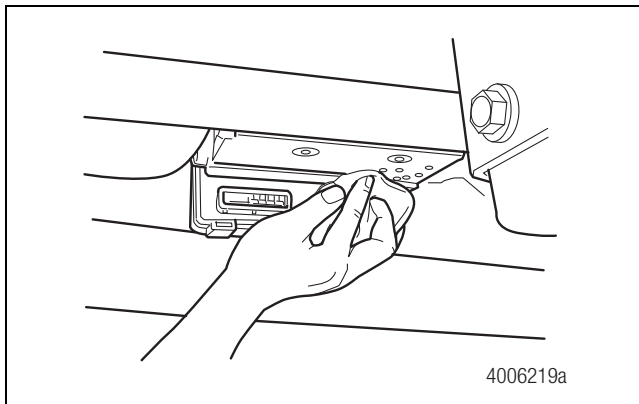

Figure 4.29
12. Use denatured alcohol and lint-free rags to clean the valve mounting surface. Ensure there is no rubber sticking to the HCU. Do not allow rubber or other debris to fall into the HPB bore holes. Figure 4.29.